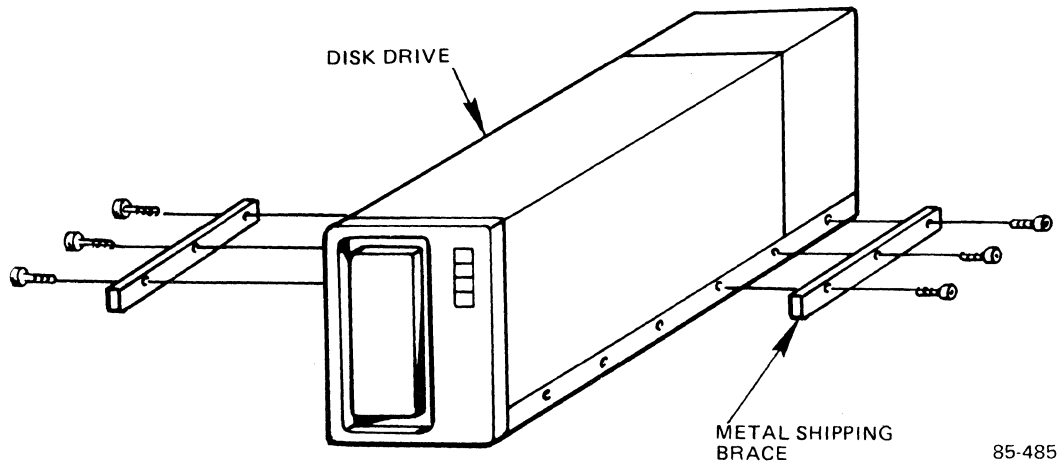

Figure 3-2. Installing the Shipping Braces
1. Install a shipping brace to each side of the disk drive as shown in Figure 3-2.